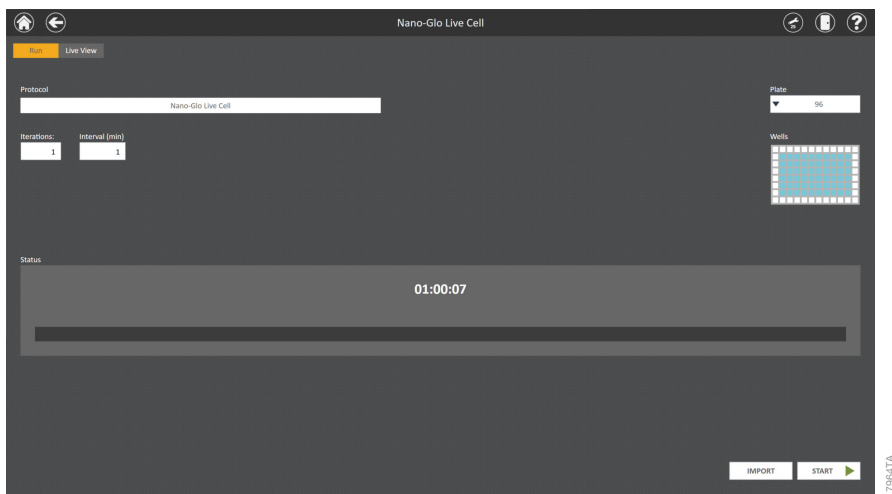

Figure 36. Time Course screen.
- Once a New Time Course is selected for a desired protocol, the Time Course screen will appear (Figure 36).